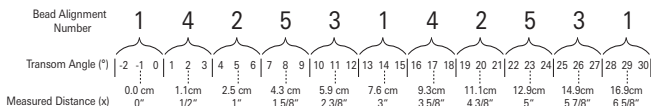
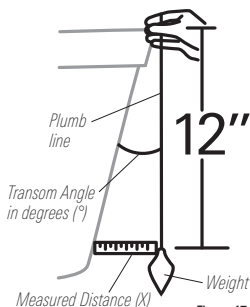

Figure 16
Figure 17
- 1a. If you already know your transom angle, refer to the chart below for the initial position to use to set the ratchets (Figure 16). If your transom is angled at 14 degrees (a common transom angle for many boats) use position 1 for the ratchets. In either case, go to step 2.
- 1b. If you do not know your transom angle, measure it using a plumb line (weighted nylon string or monofilament line) exactly 12 inches long. Hold the top of the plumb line against the top of the transom with your finger, and wait until the line hangs straight down (Figure 17). Using a ruler, measure the distance from the **bottom** of the plumb line to the back of the transom, then use the chart (Figure 16).
**NOTE:** It is important to take your measurement in the location shown in Figure 17, from exactly 12 inches down from the top of the transom.